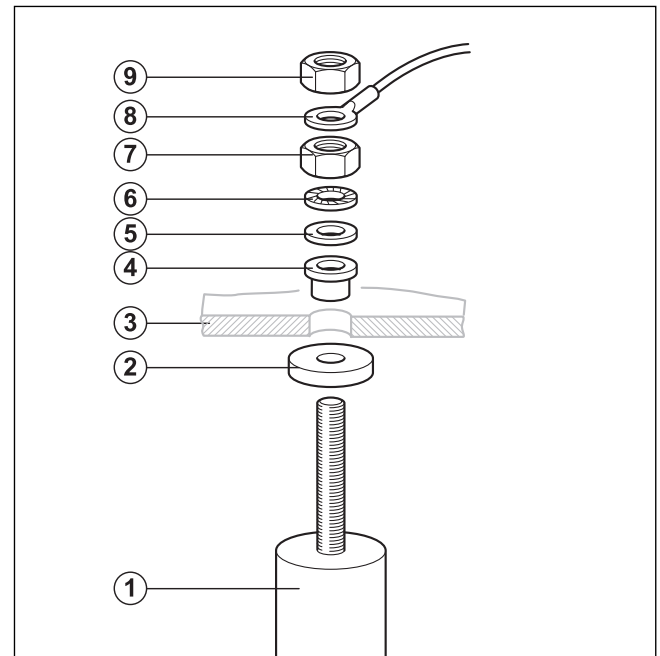

Fig. 21 Replacing the magnesium anode
- Install the new magnesium anode with the provided small parts (→ Fig. 21).